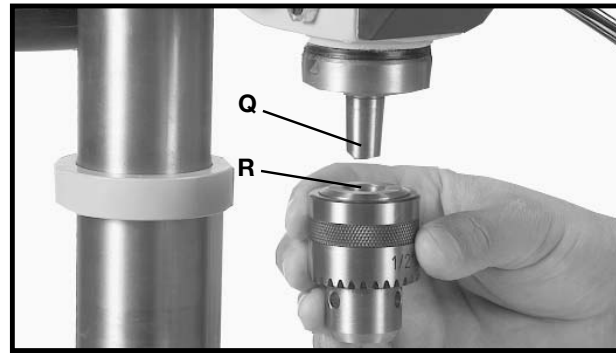

Fig. 15
10. **IMPORTANT:** Make certain the spindle taper (Q) Fig. 15, and tapered hole in chuck (R) are clean and free of any grease, lacquer or rust preventive coatings. **NOTE:** Household oven cleaner can effectively remove any sub-stance from the spindle and chuck; however, carefully follow the manufacturer's safety rules concerning its use.